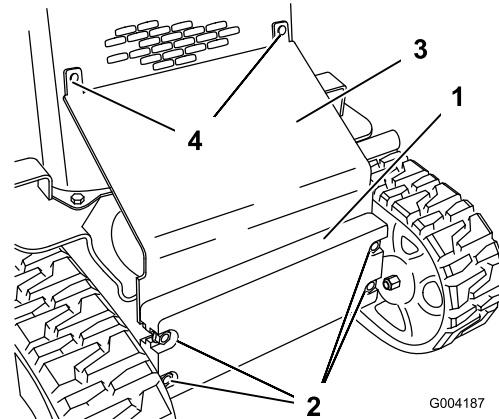

Figure 26
2. Loosen the bolts securing the front weight (Figure 26).
3. Remove the carriage bolts and nuts securing the heat shield (Figure 26).
10. Slide the heat shield between the frame and the front weight and secure it to the front screen grill using the carriage bolts and nuts removed previously (Figure 26).
11. Tighten the bolts securing the front weight (Figure 26).